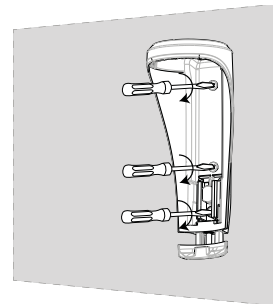

Figure 6:
4. Fasten the bracket to the mounting surface with screws. See Figure 6.